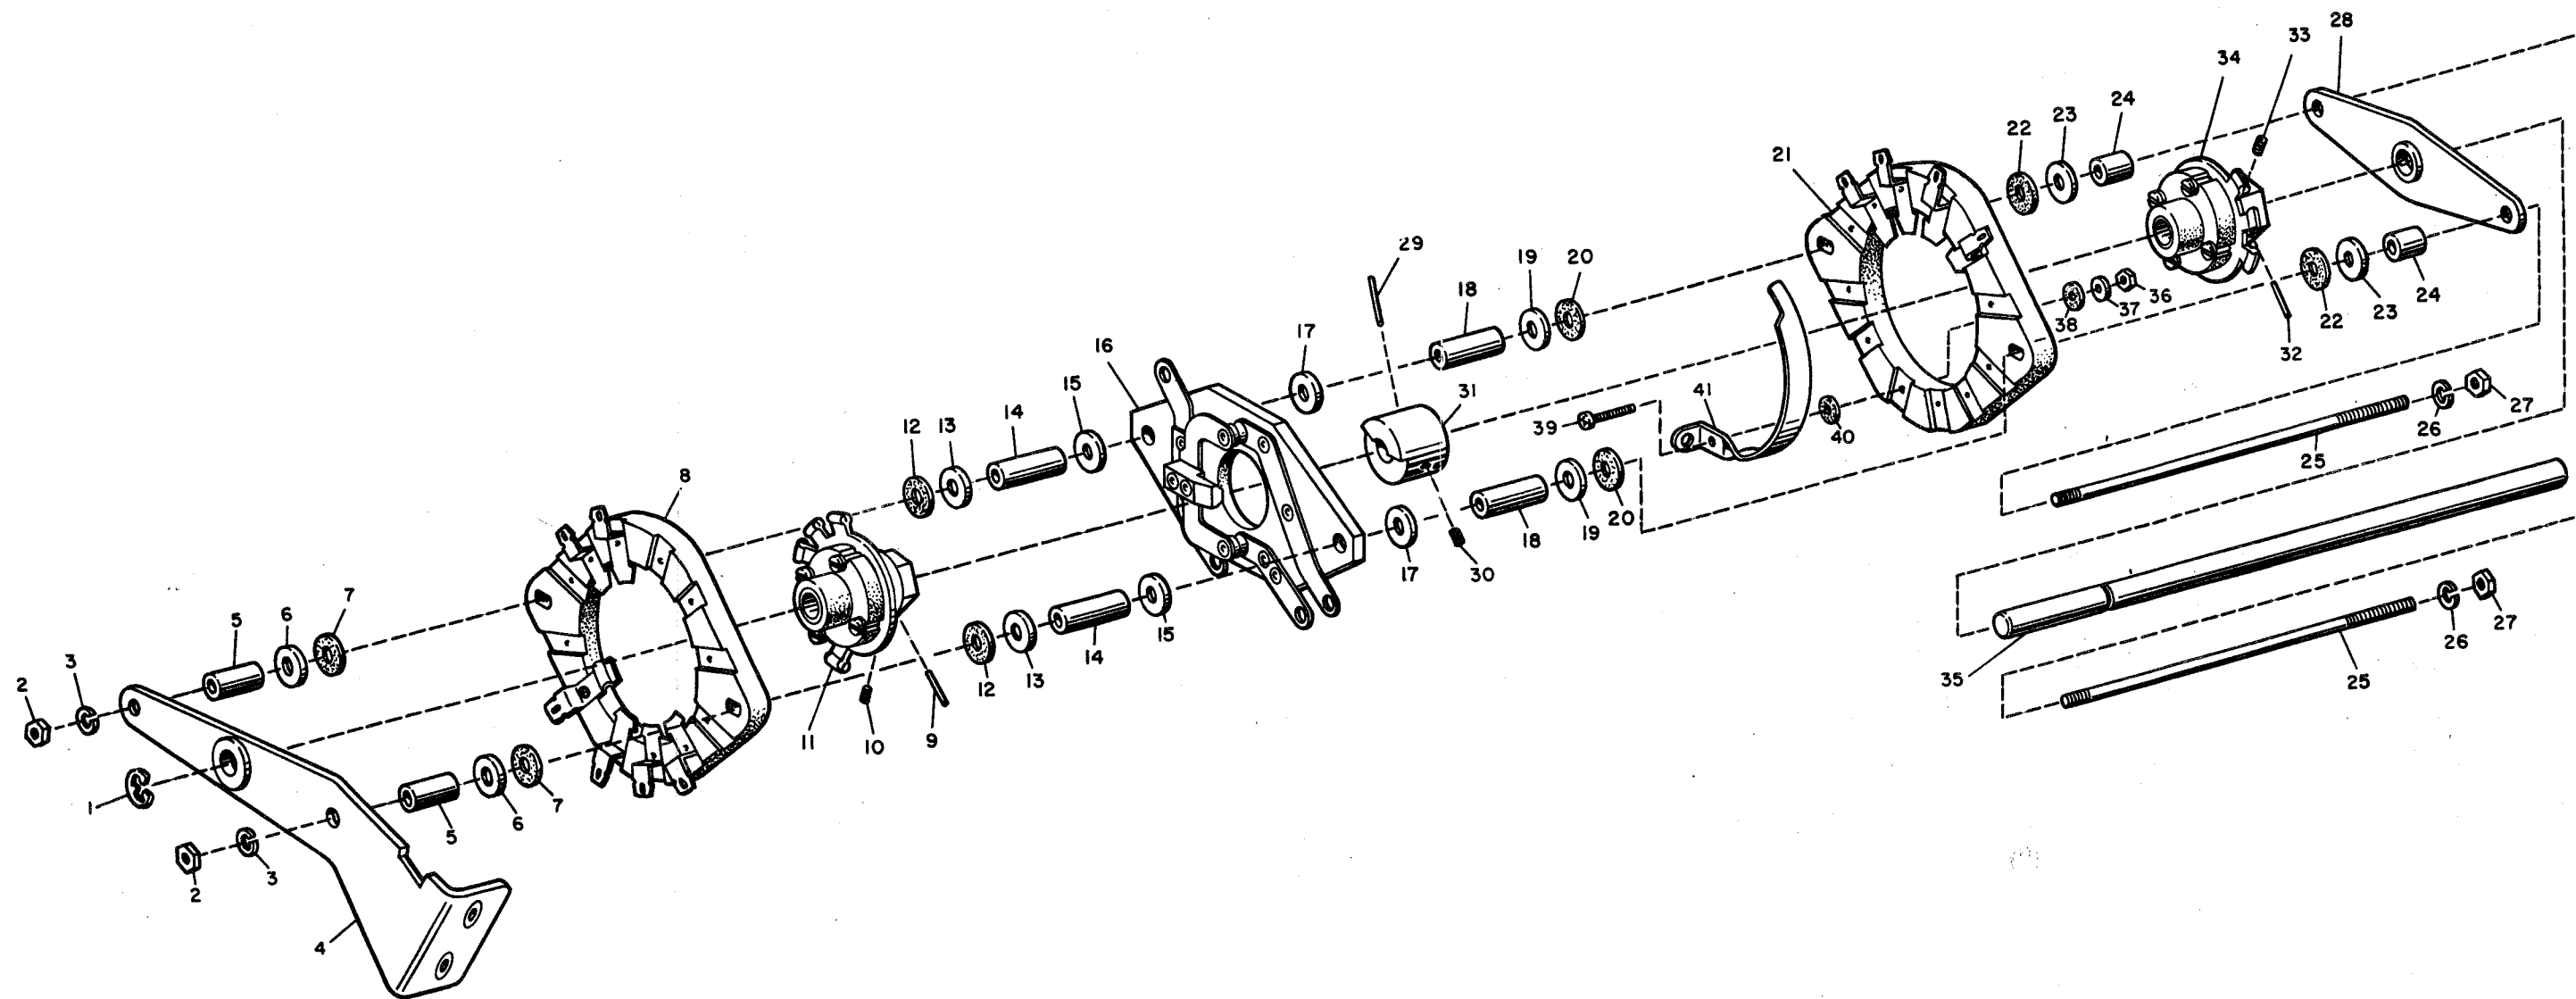

Figure 6-1. Radio Frequency Amplifier
a. BAND-SWITCH ASSEMBLY. - Refer to figure 6-1 and assembly band switch as follows:
- (1) Slide rotor (34) onto shaft (35) and align the hole in the hub of the rotor (34) with the groove pin hole in the shaft (35).
- (2) Carefully press groove pin (32) into hub of rotor (34).
- (3) Screw setscrew (33) into hub of rotor (34). Tighten setscrew (33).
- (4) Mount strip (41) to switch (21) using bolt (39), washers (40)(38)(37) and nut (36).
- (5) Insert rotor (34) into switch (21) and turn until rotor (34) will stay in switch (21).
- (6) Place switch cam (31) on shaft (35) and align the groove pin hole in the switch cam (31) with the hole in the shaft (35).
- (7) Carefully press groove pin (29) into switch cam (31).
- (8) Screw setscrew (30) into switch cam (31). Tighten setscrew (30).